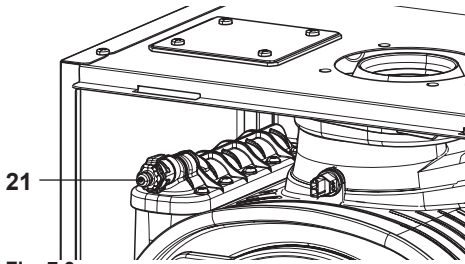

Fig. 7.3
- Before slackening the main condensing breather pipe exchanger 21 in Fig. 7.3 connect a small draining pipe to the hose nozzle to drain water out.